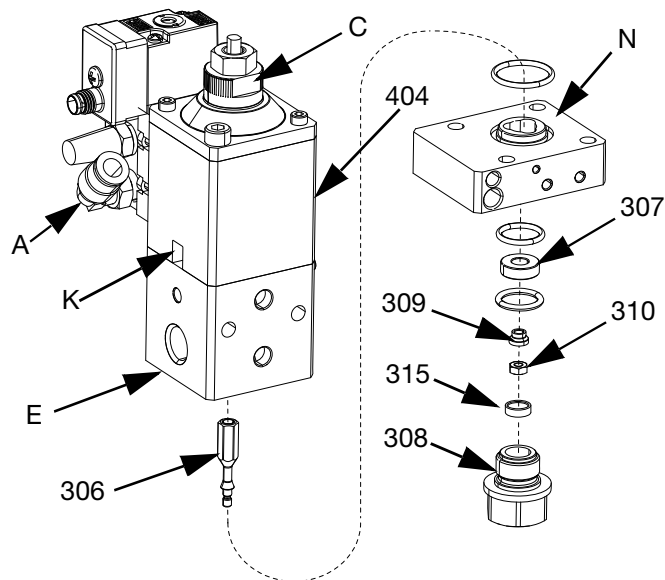

FIG. 16
1. Use the seal assembly tool (806) to install the new seal kit (101, 201) on the piston rod with the flange against the Air Section (B).
2. Remove and save the seal assembly tool (806).
4. Place an Allen key through the piston rod (410) located in the Weep Hole (K). See FIG. 16.